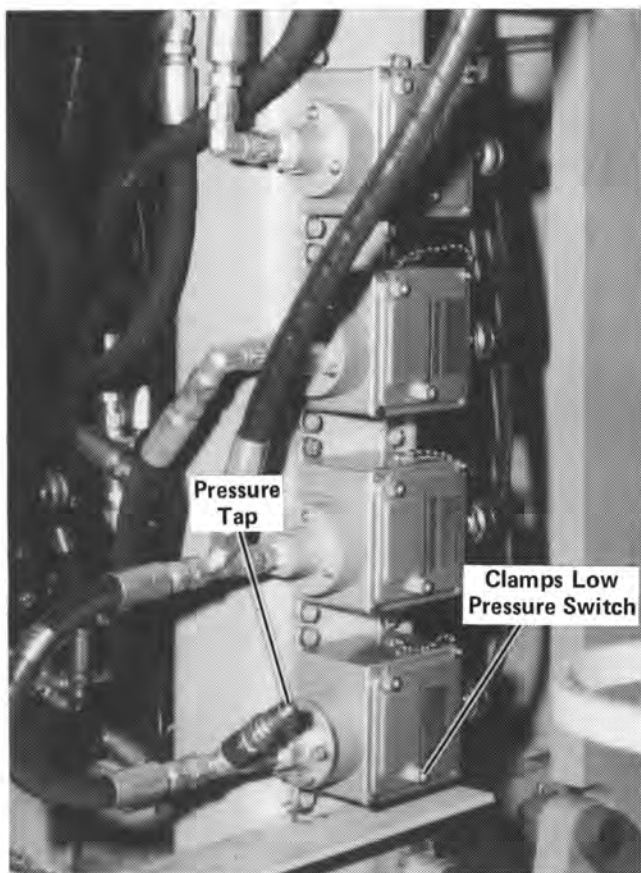

Figure 33
1. Install the pressure gauge on the pressure tap at clamps low pressure switch. See Figure 33.